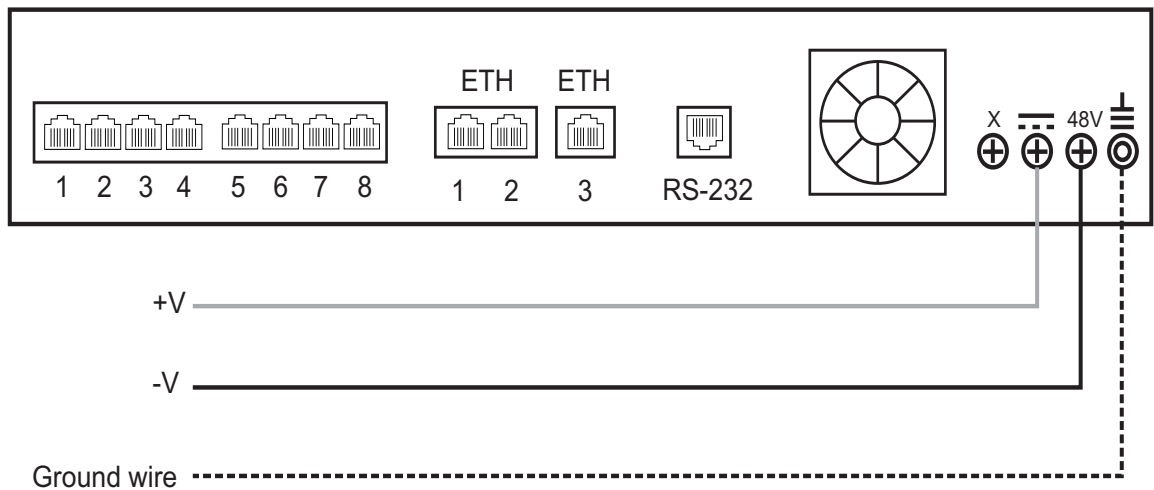

Figure 2.7 TMG800 DC wiring diagram
1. Connect a ground wire to the ground lug located at the rear of the TMG800, as shown in figure 2.7 on page 14.